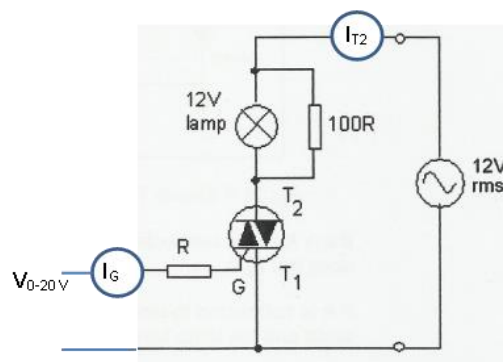

Fig.3 Half-wave and full-wave rectification
1. Connect the circuit as shown in Fig.3.